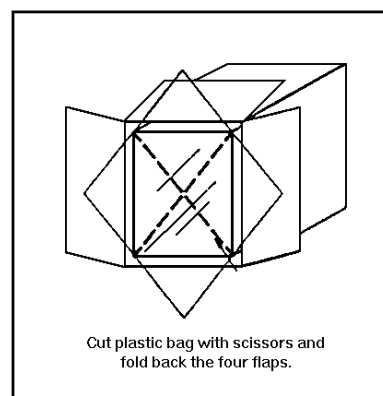

FIGURE 3
- Remove the polystyrene (foam) packing material, and cut the plastic bag with scissors, as indicated in figure 3.